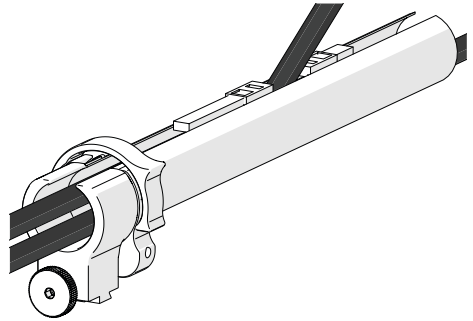

Fig. 56 - Flexibility
4. When necessary, the two zippers may be opened to allow any cables to exit the tube anywhere between the ends (Fig. 56).